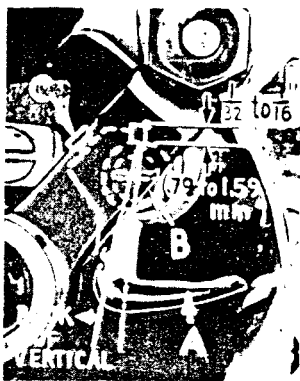

Fig. 9
Insert upper looper (A, Fig. 9) or upper spreader in its holder. Screw (B) holds the upper looper or spreader in its holder, and permits the upper looper or spreader to be pushed in or out, or turned around its shank. Insert upper looper or spreader holder into shaft, if not already in place. Screw (C) in clamp collar holds upper looper or spreader holder in the shaft, and allows holder to be rotated or adjusted laterally.
When the upper looper or spreader is at the right end of its stroke, the upper looper or spreader holder should be set to position the upper looper or spreader shank slightly back of vertical (Fig. 9). Top end of the upper looper or spreader shank should extend  $1/32$  to  $1/16$  inch (.79 to 1.59 mm) above the upper looper or spreader holder (Fig. 9) on 695B012, 040, and 051. This dimension should be  $1/16$  to  $3/32$  inch (1.59 to 2.38 mm) on 695B030.